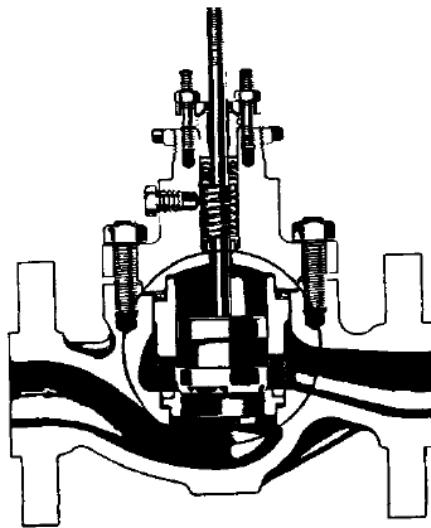

Figure 2-3. Typical single-port body control valve (courtesy of Fisher Controls International, Inc.).
: Figure 2-3 shows a very common single-port globe body control valve. All control valves have a variable opening or orifice. For a given pressure drop across the valve, the larger the orifice the greater the flow through the valve.
- In Figure 2-3 the orifice is made larger by moving the valve stem upward. This moves the plug off the seat, creating a larger annulus for flow between the seat and the plug. Similarly, the orifice is made smaller by moving the valve stem downward.